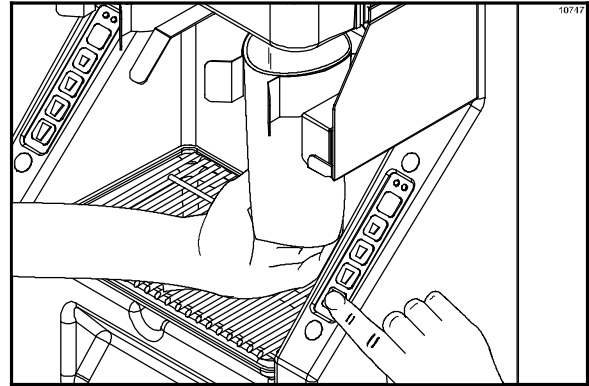

Figure 28
7. Draw a large (22 oz.) drink to flush out the old product. (See Figure 28.)